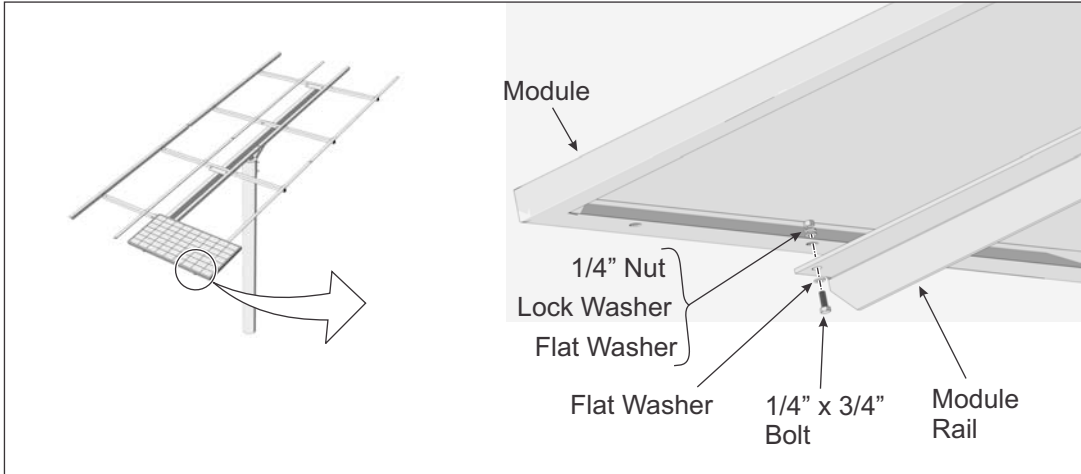

Figure 5-1: Installing PV Modules to Module Rails
- A. Place a southern most PV Module on the Module Rails. Align the mounting holes and secure with 1/4" x 3/4" bolts and hardware. Each Module has four attachment points. Finger-tighten for now. (See Figure 5-1)